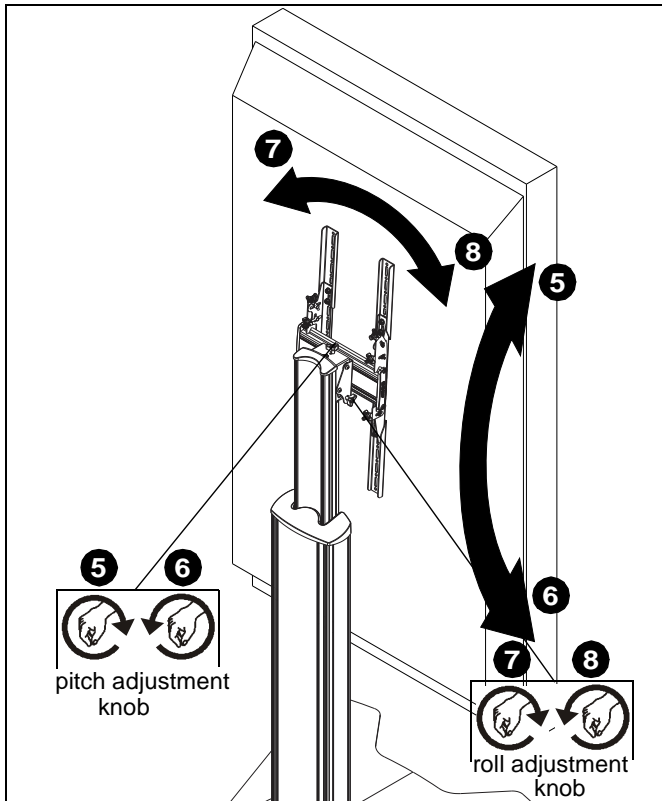

Figure 13
5. Turn pitch adjustment knob clockwise to tilt display forward. (See Figure 13)
6. Turn pitch adjustment knob counterclockwise to tilt display back. (See Figure 13)
7. Turn roll adjustment knob clockwise to adjust roll to the left. (See Figure 13)
8. Turn roll adjustment knob counterclockwise to adjust roll to the right. (See Figure 13)